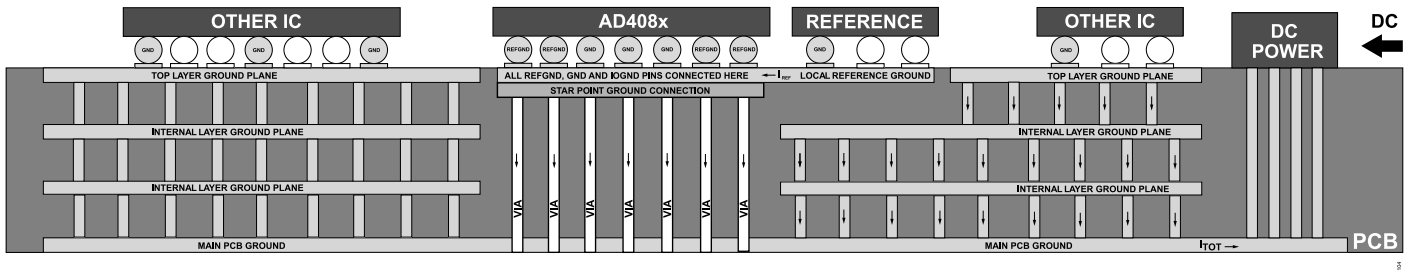

Figure 108. Recommended PCB Ground Planes Layout
- ▶ See Figure 108 for the side view cross-section of the PCB board showing the ground planes distribution. Note that Figure 108 only shows the ground planes but does not including the signal tracks.